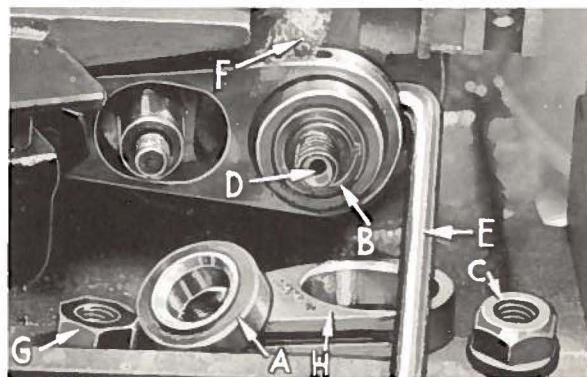

Fig. 12
If eccentrics are unusually tight fitting, in addition to removing nut (C, Fig. 12) from shaft (D), it may be helpful to remove nut (G) and feed driving connection (H). Then, continue as originally suggested.